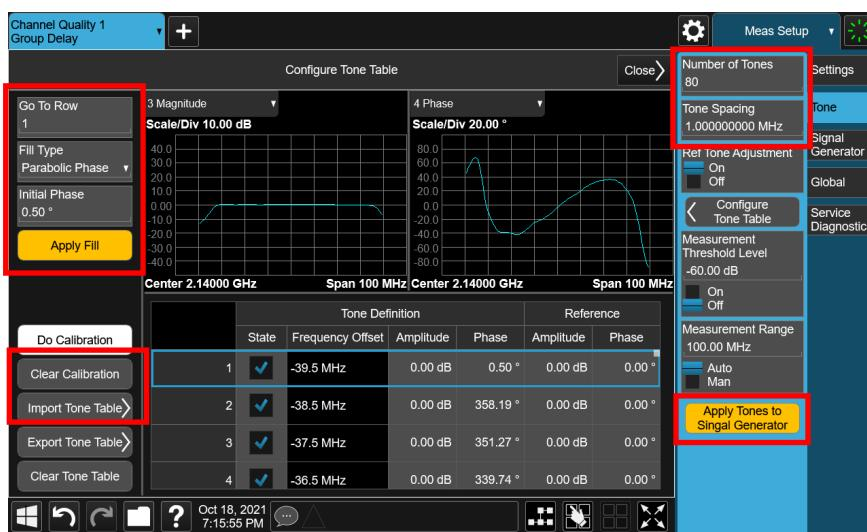

Figure 4. Multi-tone Configuration Table
1. Firstly, you can connect the signal generator and signal analyzer with a cable. Then go to [Meas Setup] and [Configure Tone Table] menu as Figure 4 and then press “**Do Calibration**” button. It will do the group delay reference measurement and the calibration date will be applied with the real measurement if you turn on the “**Reference Tone Adjustment**” which is turned on by default.